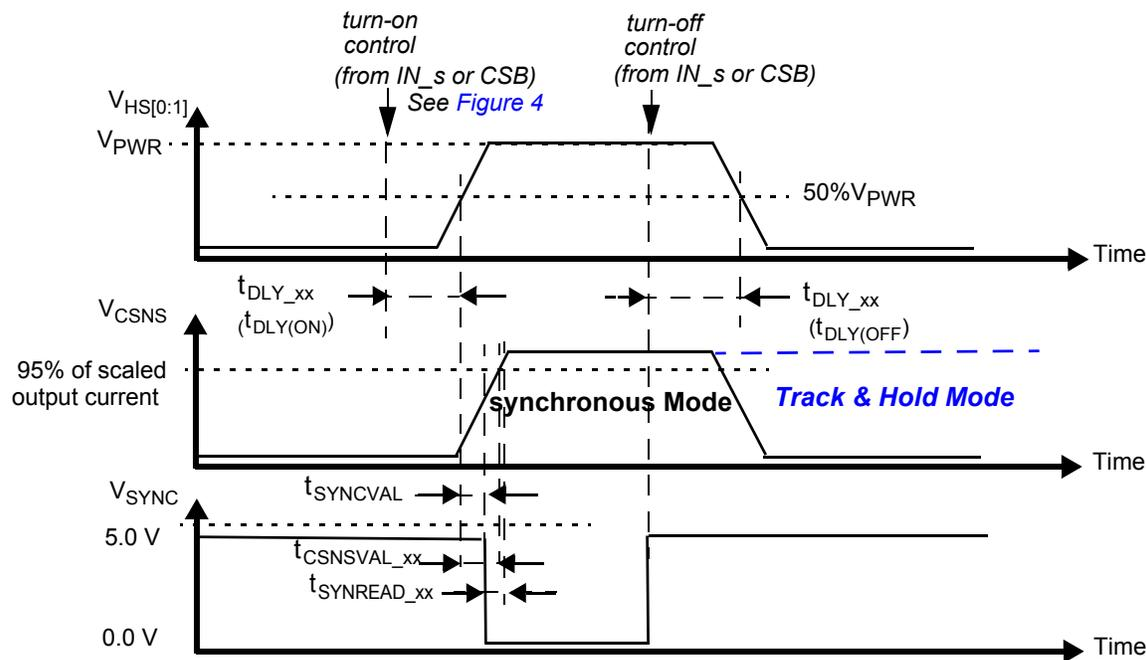

Figure 9. Synchronous & Track-and-Hold Current Sensing Modes: Associated Delay & Settling Times
- Settling time ($= t_{\text{CSNSVAL_xx}}$), SYNC output signal delay ($= t_{\text{SYNCVAL_xx}}$) and Read-out delay ($= t_{\text{SYNREAD_xx}}$) are defined for a stepped load current ($100\text{ mA} < I(\text{LOAD}) < I_{\text{OCLX A FOR CSNS_RATIO_S}} = 1$, AND $300\text{ mA} < I(\text{LOAD}) < I_{\text{OCLX A_0 FOR CSNS_RATIO_S}} = 0$). (see Figure 9 and Output Current Monitoring \(CSNS\))
The CS pin allows independent current monitoring of channel 0 or channel 1 up to the steady-state overcurrent threshold. It can also be used to sense the device temperature. The different functions are selected by setting bits CSNS1_en and CSNS0_en to the appropriate value (Table 23). When the CSNS pin is sensed during switch-off in the (optional) track & hold mode (see Figure 9), it outputs the scaled value of the load current as it was just before turn-Off. When several devices share the same pull-down resistor, the CSNS pins of devices, the current of which is not monitored, must be tri-stated. This is accomplished by setting CSNS0_en = 0 and CSNS1_en = 0 in their GCR register (Table 12). Settling time ($t_{CSNSVAL_XX}$) is defined as the time between the instant at the middle of the output voltage’s rising edge ($HS[0:1] = 50\%$ of V_{PWRR}), and the instant at which the voltage on the CSNS pin has settled to $\pm 5.0\%$ of its final value. Anytime an overcurrent window is active, the CSNS pin is disabled (see Overcurrent Detection on Resistive and Inductive Loads). The current and temperature sensing functions are unavailable in Fail-safe mode and in Normal mode when operating without the V_{DD} supply voltage. In order to generate a voltage output, this pin requires a pull-down resistor ($R(CSNS)=1.0\text{ k}\Omega$ typ. and $470 < R(CSNS) < 10\text{ k}$). When the current sense resistor connected to the CSNS pin is disconnected, the CSNS voltage is clamped to $V_{CL(CSNS)}$. The CSNS pin can source currents up to about 5.6 mA.
To synchronize current sensing with an external process, the SYNC signal can be connected to a digital input of an external MCU. An open-drain pull-down on SYNC indicates that the current sense signal is accurate and ready to be read. The current sense signal on the CSNS pin has the specified accuracy $t_{SYNREAD_XX}$ seconds after the falling edge on the SYNC pin (Figure 9) and remains valid until a rising edge is generated. The rising edge that is generated by the SYNC pin at the turn-OFF instant (internal or external) may also be used to implement synchronization with the external MCU. Parameter t_{SYNVAL_XX} is defined as the time between the instant at the middle of the output voltage rising edge ($HS[0:1] = 50\%$ of $VPWR$), and the instant at which the voltage on the SYNC-pin drops below 0.4 V (V_{SOL}). The SYNC pins of different devices can be connected together to save micro-controller input channels. However, in this configuration, the CSNS of only one device should be active at a time. Otherwise, the MCU is not be able to determine the source of the SYNC signal. The SYNC pin requires an external pull-up resistor to V_{DD} .